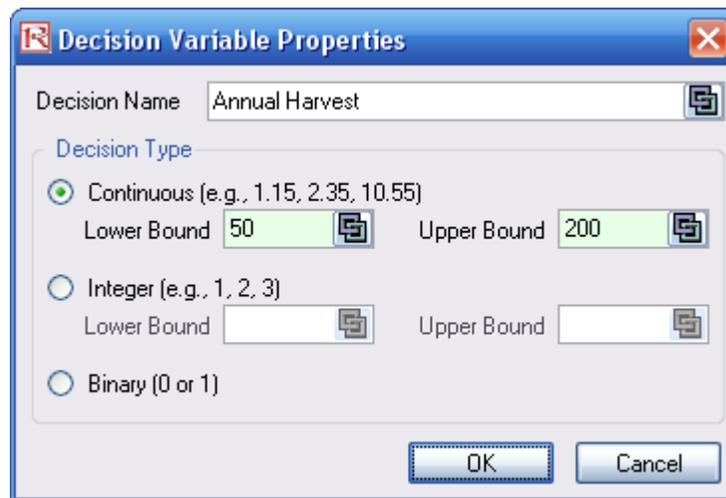

Figure 6: Continuous decision variables
3. Set the decision variable. Select cell **D7** (Annual Harvest) and click on the **D** icon or **Risk Simulator | Optimization | Set Decision**. Select **Continuous** and click on the link icon and link the lower bounds and upper bounds to **D12** and **D13** (Figure 6). Continuous decision variables can be chosen as the number of trees modeled is in thousands of units.